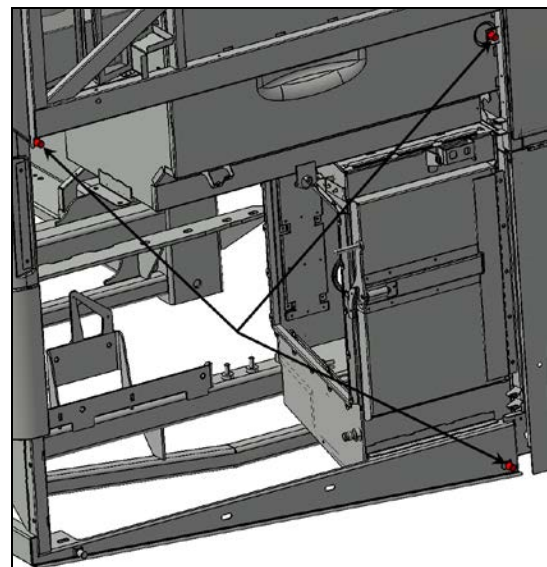
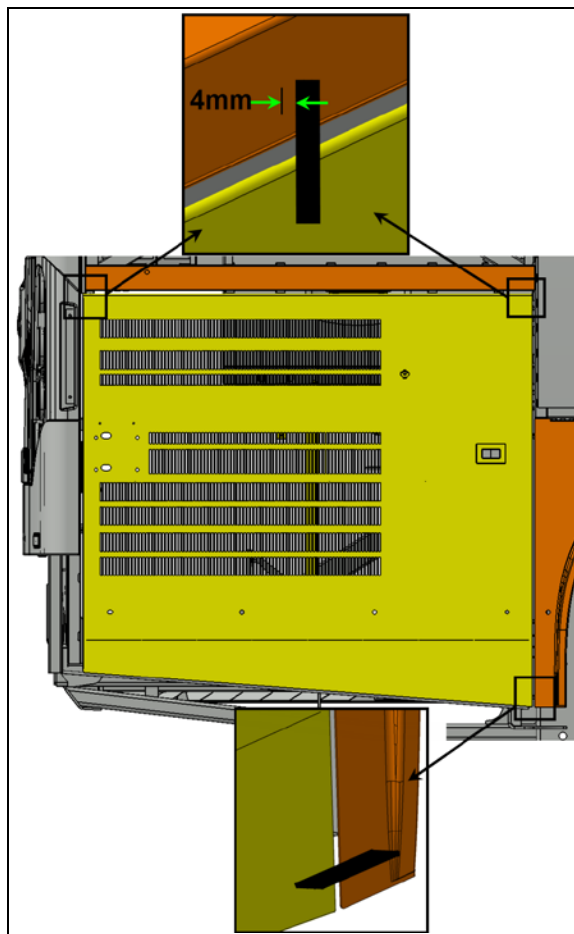

FIGURE 67
FIGURE 68
19. Screw in or out the two upper stoppers so that the upper part of the door exceeds the horizontal member by $5/32$ " to $3/16$ " (4mm to 5mm) (see FIGURE 67 & FIGURE 68).